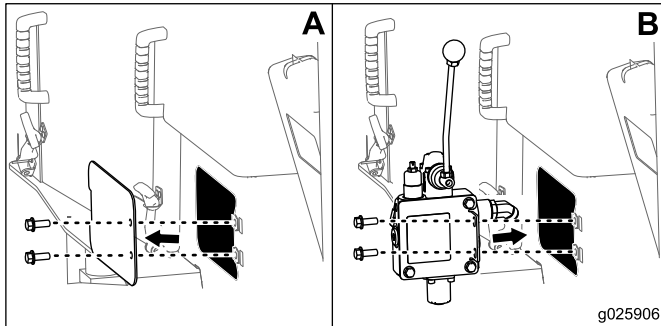

Figure 13
1. 45-degree fitting (2)
2. Straight fitting (3)
4. Using the left panel bolts, install the valve assembly to the machine (refer to Figure 13).